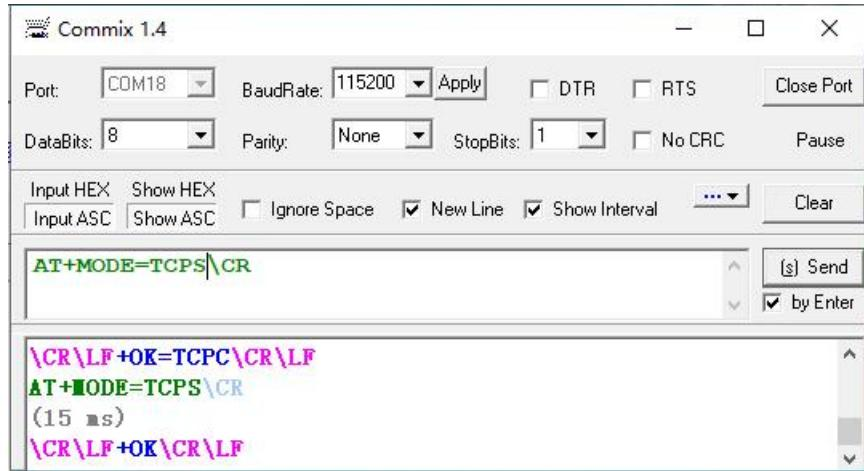

Figure 6-17 AT Command for Setting TCP Server Mode
- 1) Set the module to TCP Server mode with the target port set to 60000. Both AT commands and web pages are available Take AT command setting as an example, as shown in Figure 6-17. For specific AT command mode entry operation, please refer to. AT Instruction Set Section.
- 2) As shown in Figure 6-17, the receipt of "+ OK" indicates that the module has finished setting the TCP Server mode. Then exit the at finger Command mode, the program automatically returns to passthrough mode.